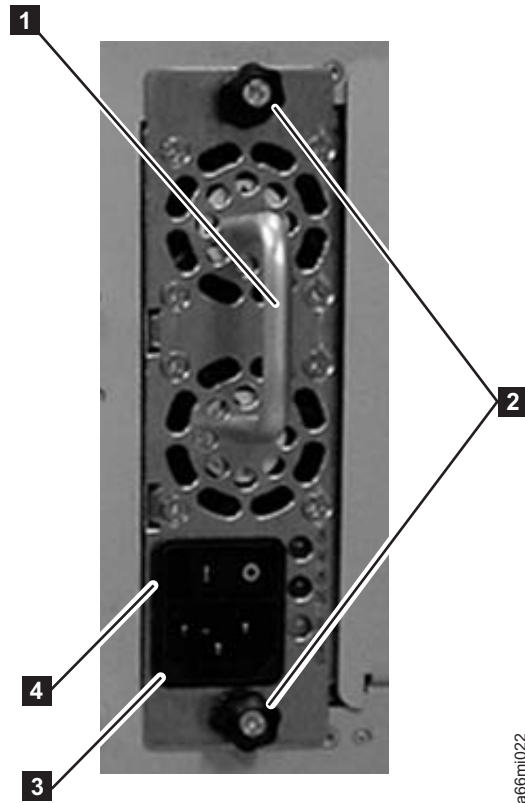

Figure 3-14. Control Module Power Supply
1. Replace the power supply component by sliding it into the power supply slot. First, grasp the handle (**1** in Figure 3-14) while supporting the power supply component from underneath. Then, line up the power supply component with the guides in the power supply slot, and carefully push it into the library.
2. Tighten the two thumb screws (**2** in Figure 3-14) on the power supply component by turning them clockwise.